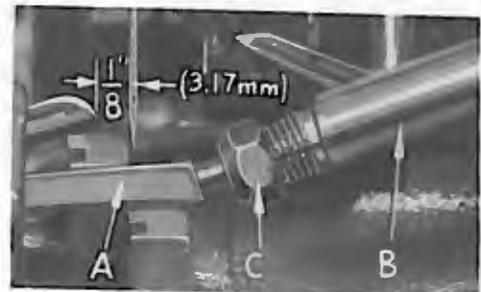

Fig. 5
At this point, insert lower looper (A, Fig. 5) into bar (B). With lower looper at left end of its stroke, set looper point 1/8 inch (3.17 mm) from center of needle (Fig. 5), using looper gauge No. 21225-1/8, on Styles 39500 FS, FT, FU, GT, JP and MM. On Styles 39500 GD and GL, with lower looper at left end of its stroke, set looper point 1/16 inch (1.59 mm) from center of left needle, using looper gauge No. 21225-1/16. Do not have lower looper deflecting needle. Tighten nut (C). Now assemble differential (front) feed dog.
needle guard surface another .002-.004 inch (.051-.102 mm). Tighten nut (C, Fig. 5) securely.